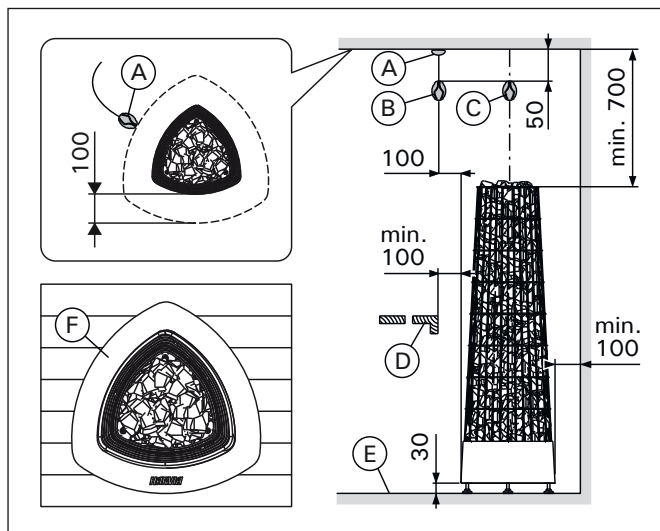
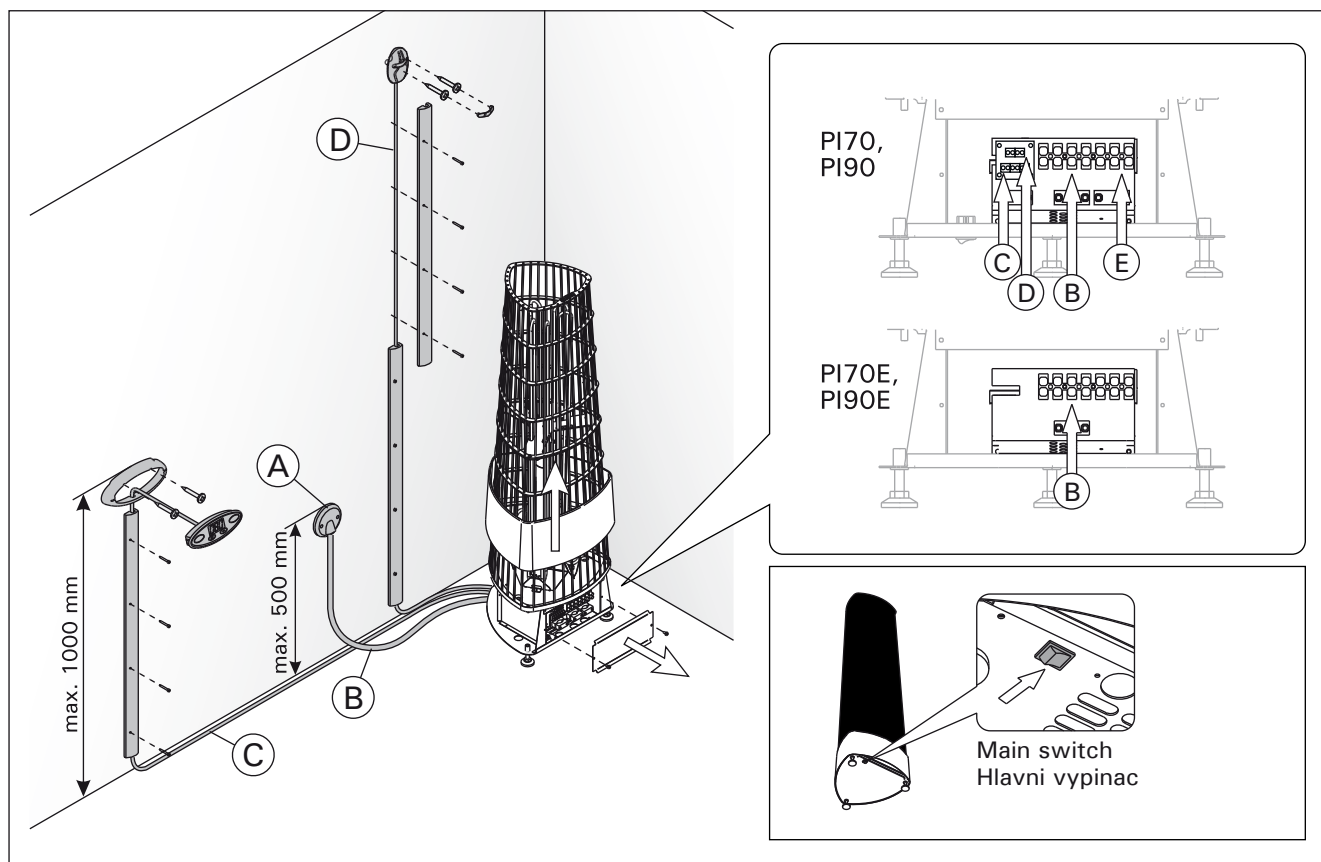

Figure 6. Safety distances (all dimensions in millimeters)
Figure 7. Heater's connectors
The minimum safety distances are described in figure 6. **It is absolutely necessary to install the heater according to these values. Neglecting them causes a risk of fire.** Components shown in figure 6:
Connections of the heater (figure 7):
- The heater is semi-stationarily connected to the junction box (figure 7: A) on the sauna wall. The junction box must be splash-proof, and its maximum height from the floor must not exceed 500 mm.
- The connecting cable (figure 7: B) must be of rubber cable type H07RN-F or its equivalent. **NOTE! Due to thermal embrittlement, the use of PVC-insulated wire as the connecting cable of the heater is forbidden.**
- **PI:** Install the sensor as shown in figure 6. Connect the sensor cable to the connector in the heater on a colour-to-colour principle (figure 7: D).
- **PI-E:** Install the sensor, delivered with the control unit, as shown in figure 6.
Note! Do not install the temperature sensor closer than 1000 mm to an omnidirectional air vent or closer than 500 mm to an air vent directed away from the sensor. See figure 6. The air flow near an air vent cools down the sensor, which gives inaccurate temperature readings to the control unit. As a result, the heater might overheat.
Fasten the control panel as follows (see figure 7):
4. Connect the free end of the data cable to the connector in the heater on a colour-to-colour principle (figure 7: C).